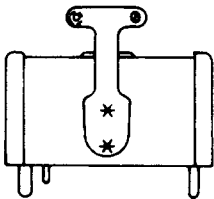

Fig. 9—KS-14671-Type Connector
2.05 KS-14671-Type: The KS-14671, L1 through L8, connectors (Fig. 9) consist of molded, rectangular blocks, equipped with 21 or 34 gold-plated, brass terminals. Two shouldered mounting screws are furnished to enable the body to float when mounted. The KS-14671-type connectors will mate with the KS-14672-type connectors. For more information, see Table C.